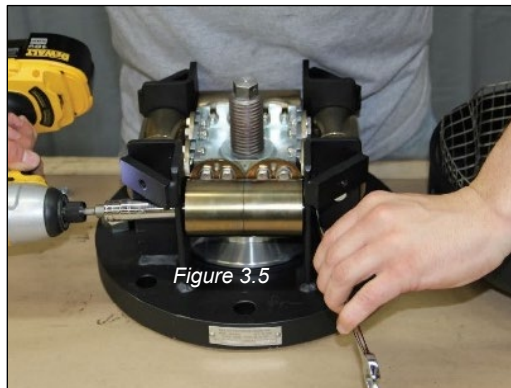

Figure 3.5
5. The spring block assembly is secured to the valve body by the drum bolts. Remove the lock nut from the drum bolt, then pull the drum bolt free from the spring assembly and valve body. If the drum bolts are not easily removed, place a slotted screwdriver between the spring coil and the spring block, then lightly pry the drum away from the spring block. This allows for easier removal of the drum bolt (*Figure 3.5 – 3.8*).